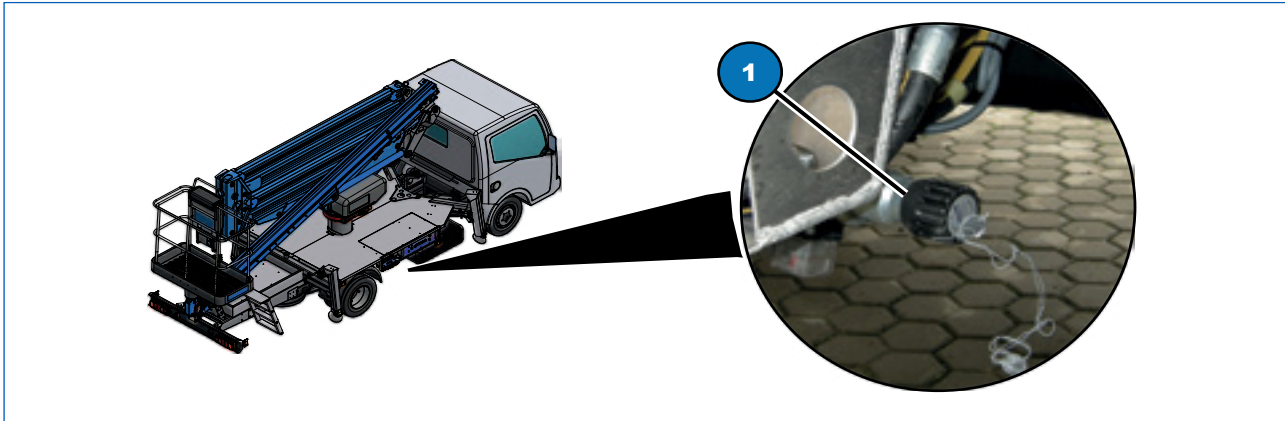

Fig. 5.5
The manual emergency pump 2 (Fig. 5.5) is installed on the frame's rear extension.
- Remove the lever (Fig. 5.5, 1) from the right hand side of the turret by loosening the black locking knob (Fig. 5.5, 3) and insert it in the pump (Fig. 5.5, 2);
- Manually operate the lever of the emergency hand pump (Fig. 5.5, 2) and at the same time operate the electrical controls on the control panel.
The maximum pressure valve (Fig. 5.5, 1), located under the vehicle stabilisation control panel, prevents the maximum working pressure from being exceeded.